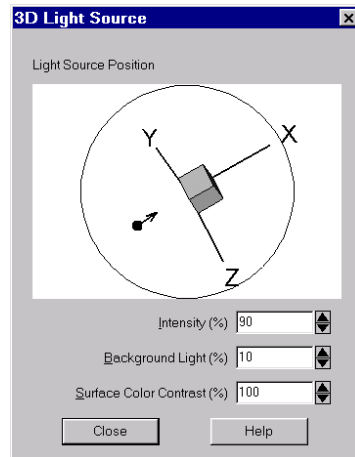

Figure 16-4. The 3D Light Source dialog.
16.1.2.1. 3-D Light Source. The 3-D light source is a point of light infinitely far from the drawing area. You can specify its location as a point on a hemisphere with a pole along the eye-origin axis. You control the location with the Light Source Position control in the 3D Light Source dialog, shown in Figure 16-4.